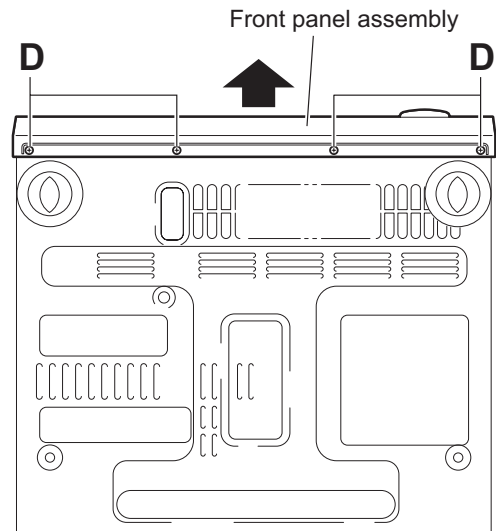

Fig.3
- (7) From the bottom side of the main body, remove the four screws **D** attaching the front panel assembly. (See Fig.3)
- (8) Remove the front panel assembly in the direction of the arrow. (See Fig.3)